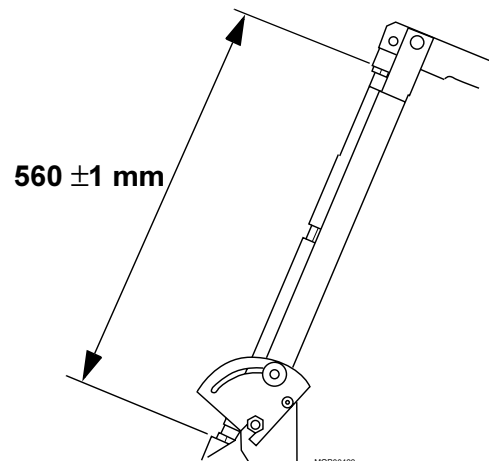
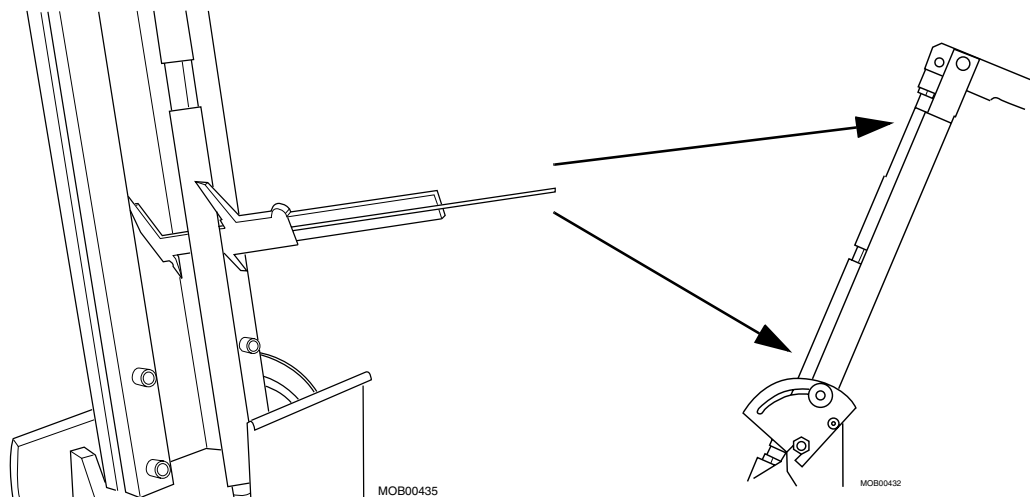

Fig. 41 Correct length
Fig. 46 Measuring parallelism
15. The adjustment rod must always be parallel with the arm. This can be checked by measuring at two points as far away from each other as possible but with the same diameter of the adjustment rod (Fig. 46). The parallelism must not deviate more than 0.6 mm. The measurements must be performed with the arm in the uppermost and lowermost positions. If not parallel, make sure the length (Fig. 41) is correct by adjusting the adjustment rod.